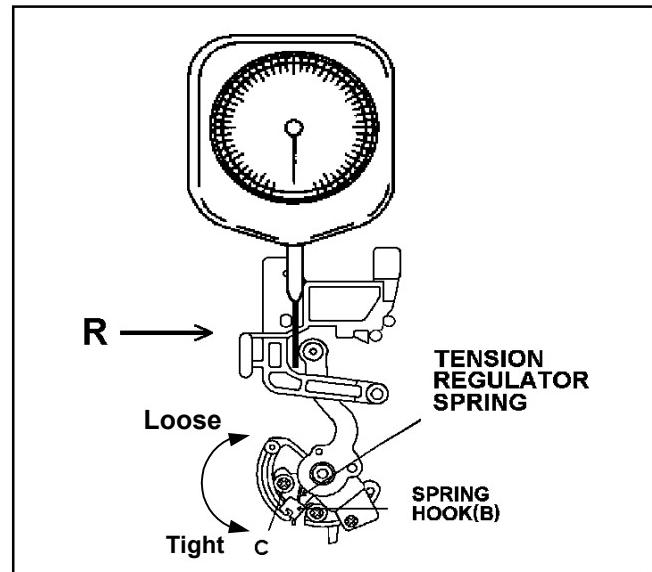

Figure 3-6-1
4. Push the tension post to the direction R by the tension gauge as shown in Figure 3-6-1 until the voltage at the test point becomes 3.8V (It means PLAY position). And then confirm the indication (tension) of gauge is in SPEC.
5. If it is out of SPEC, loosen the screw (C) and adjust the position of hook (B) so that the indication (tension) of gauge is within the specification.
- Then tighten the screw (C) and reconfirm tension is within the specification.